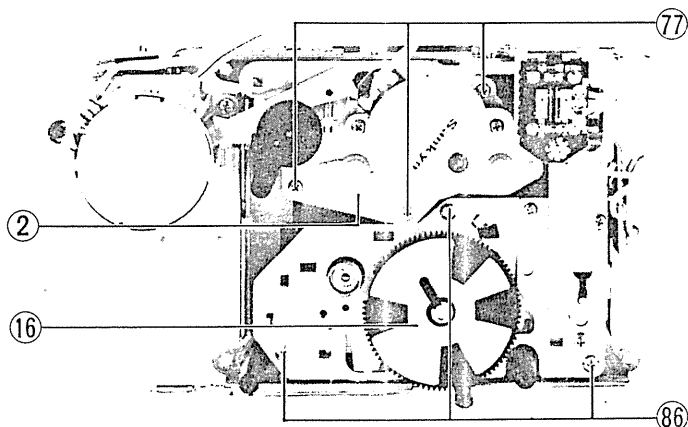

Fig. 14
#### K. Reel disk ass'y (2) (Fig. 14)
2. Remove 3 screws (77).
#### L. Drive gear ass'y (16) (Fig. 14)
2. Remove 3 screws (86).